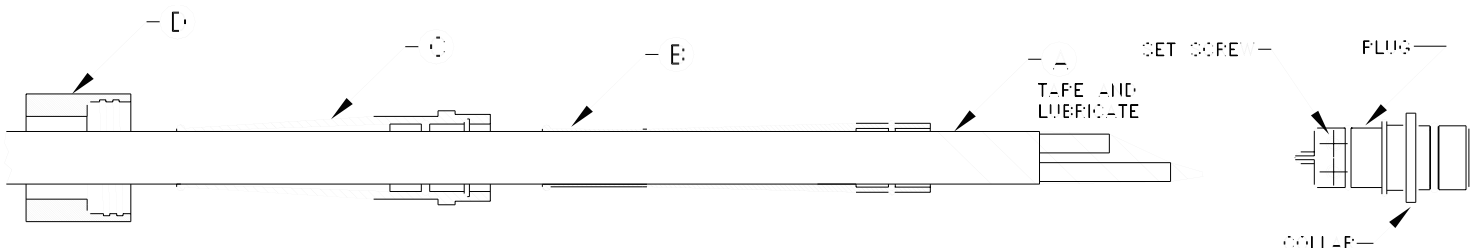

FIGURE 4
- Wrap electrical tape around the cable. Start 2 in. (5 cm) below outer cable jacket and continue to taper to a point past the end of lead wires (Fig. 4).
- Slide the cable boot components over the cable (Part A) in the following order (Fig. 4).